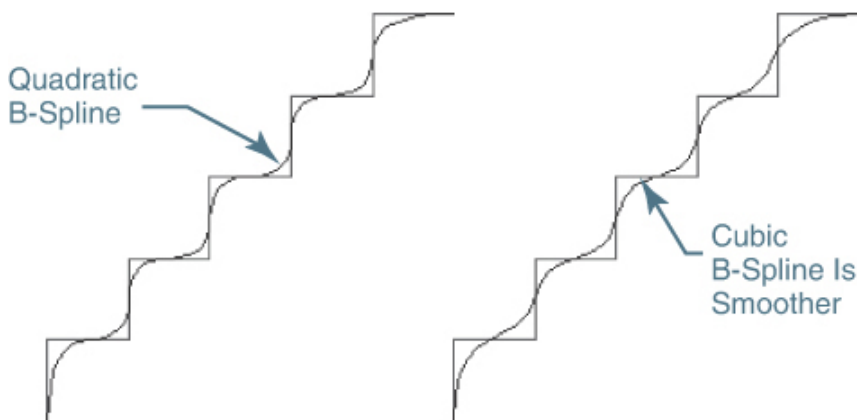

Figure 9-44
AutoCAD can generate either quadratic or cubic spline fit polylines. A cubic B-spline is very smooth, much smoother than a quadratic B-spline, as shown in Figure 9-44.
- 3 Create a cubic spline fit polyline in another location similar to the polyline shown in Figure 9-44 using the **PEDIT** command and the **Spline** option.